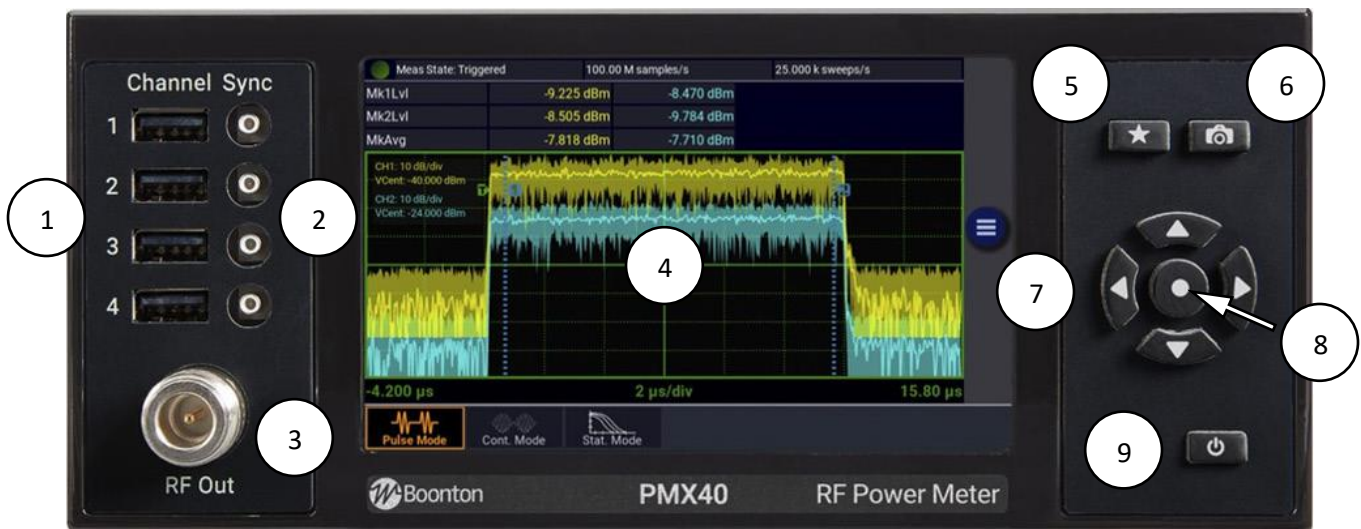

Figure 3-1. PMX40 RF Power Meter - Front Panel
Figures 3-1 and 3-2 illustrate the controls, indicators, and connectors on the front and rear panels, respectively, of the standard instrument. Refer to Table 3-1 for a description of each of the illustrated items. The function and operation of all controls, indicators, and connectors are the same on the standard and optional models.
1. If the main power is off, press the power switch located on the rear panel. See Figure 3-2. Press the On/Standby key. See Figure 3-1. After a self-check, the instrument will execute the application program. There will be some momentary dialogs indicating application initialization and channel updating. After the last dialog the main screen will be on the display.